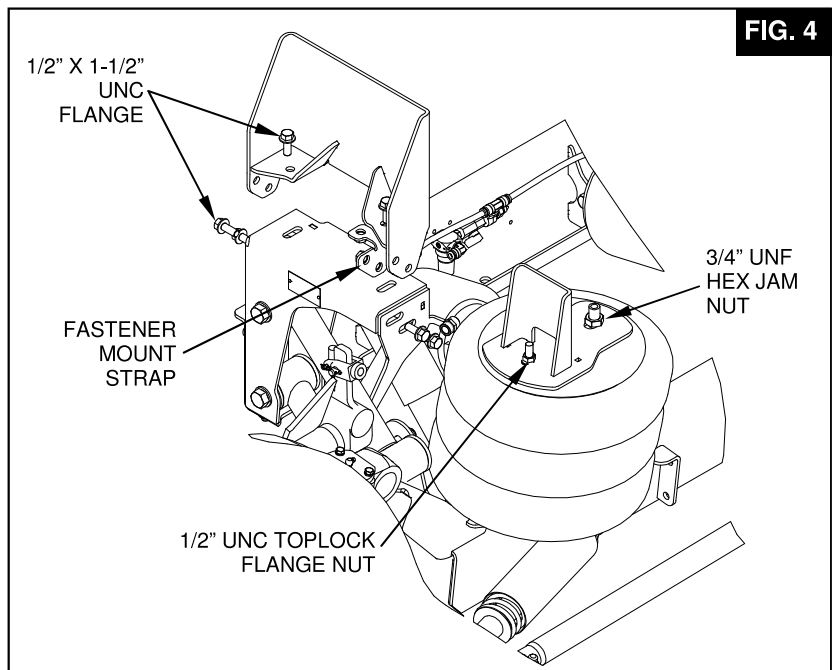

FIG. 4
10.6 Assemble the suspension to the front frame brackets using the provided mounting hardware (See **Fig. 4** for fastener detail)
10.7 Assemble the air springs to rear frame brackets using the 1/2" and 3/4" mounting hardware (See **Fig. 4** for fastener detail).